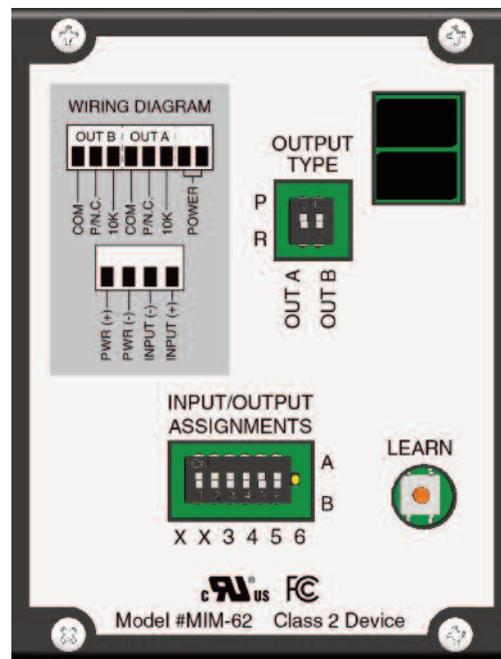

Figure 3
- 2-7. To assign signal Output Types, select either "R" for Relay (10K or normally closed), or "P" for Pulsed, as required by your gate operator. See Figure 3.
- 2-8. Each device input can have a different output assignment. Use the Input/Output Assignment DIP switches to select A or B for each input that has a monitored device. See Figure 3.